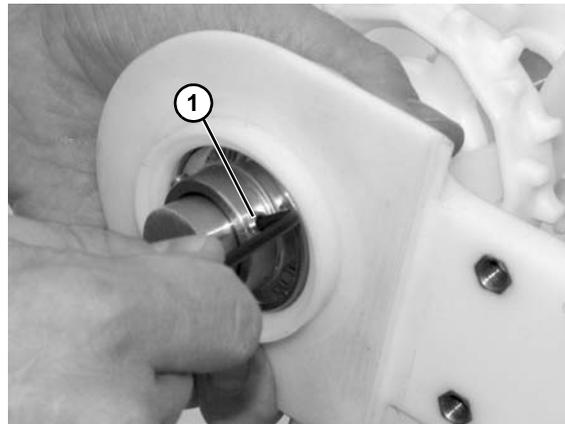

Figure 55
6. Loosen set screws (Figure 55, item 1).